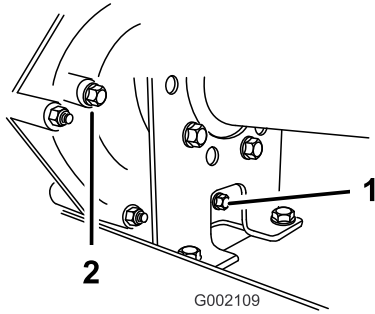
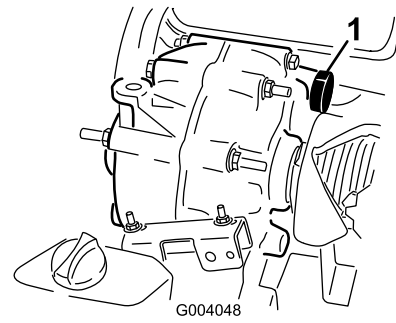

Figure 57
Figure 58
2. Wipe the area around the fill and drain plugs clean with a rag (Figure 57).
8. Install and tighten the fill plug and gasket into the fill-plug hole of the transmission (Figure 57).
10. Check the oil level and add more oil if the level is below the threads of the fill-plug hole (Figure 57).
4. Remove the fill plug by rotating it counterclockwise (Figure 57).
5. Remove the drain plug by rotating it counterclockwise (Figure 57).
6. Install and tighten the drain plug and gasket into the drain-plug hole of the transmission (Figure 57).
7. Fill the reservoir (Figure 58) through the fill-plug hole with approximately 1.4 L (1-1/2 qt) of the specified oil or until the oil level in the transmission is even with the bottom of the threads. (Figure 57).